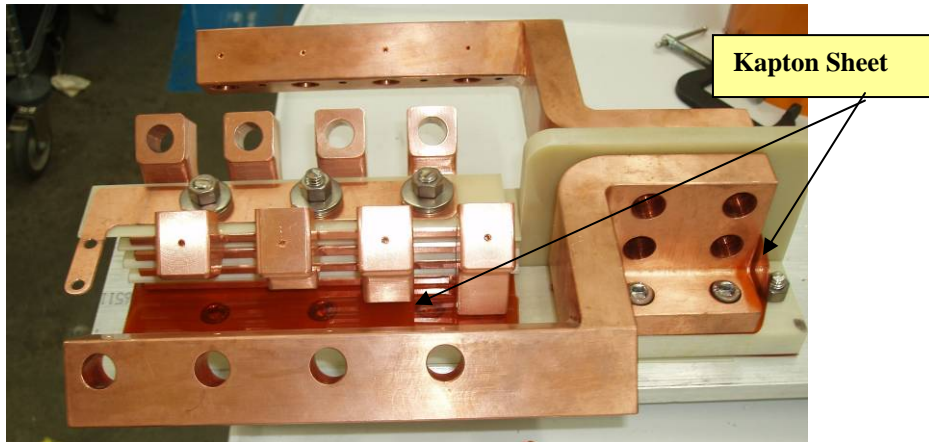

Figure 23- Install Terminal Lugs
- Install and epoxy in-place the insulating divider plate in the groove provided in the G-11 base. Mount the terminal lugs to the G-11 base plate and secure in position with appropriate hardware. Figure 23- Install Terminal Lugs
- Install a Kapton sheet [0.002 in. minimum thickness] between the G-11 base-plate and the Terminal lugs extending over the mounting hardware that secures the G-11 plate to the winding form. This will improve the electrical tracking distance. [See Figure 23- Install Terminal Lugs]